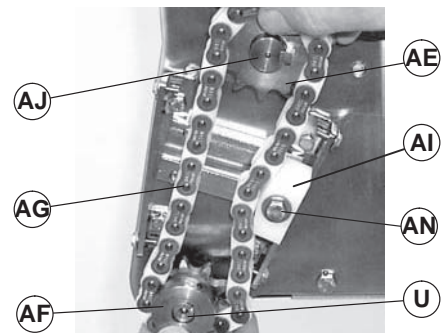

Figure 26
- Install new timing chain (Figure 26, item AG) over sprockets (AE and AF). Install timing chain and sprockets on conveyor input shaft (U) and gearmotor output shaft (AJ). Do not tighten sprocket set screws.